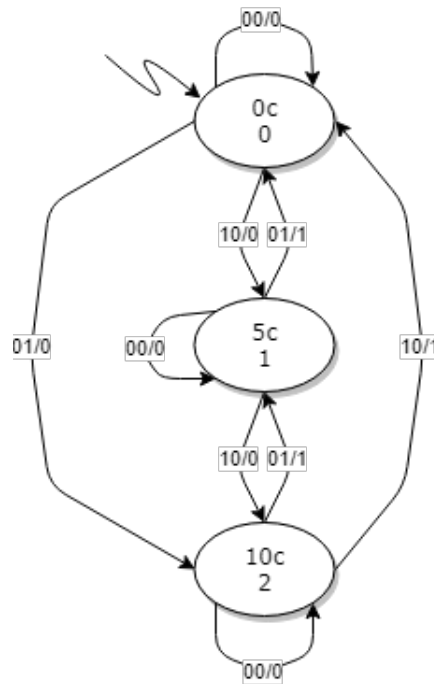

Figure 1: State diagram of the Mealy coffee machine.
You have now created the IP block and added the module to the block. The next step is to implement the mealy machine. The state diagram is depicted in figure 1. The mealy machine has the same inputs and outputs as the moore machine however unlike the moore machine, the mealy machine has a output at a transition and not a state. This poses a problem as these transition are instantly, if you only put the coffee led on during the transition than it would blink once very fast. You would not be able to see this. This is solved by simply updating the led at a transition and than leaving it on/off when the transition is done.
2. Write the implementation of the final state machine as provided in fig. 1. Make a transition when the `insert` button is pressed and reset the FSM when `reset` is high. Only update the output at the positive edge of the clock and only use edge triggering of the clock signal. To make sure that you only make a transition when the `insert` is **pressed**, check whether the current value is different from its previous value. **Do not use: `always @ (posedge insert)`.**